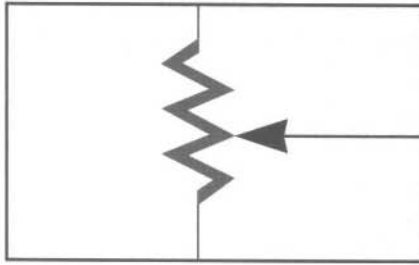

Fig. 4
8. The behavior of resistive circuit elements can be represented by a plot on the voltage-current ( $v$ - $i$ ) plane. This plot is usually called a  $v$ - $i$  characteristic. For most resistive devices, there is a unique value of  $i$  for each value of  $v$ , and vice-versa. To measure  $i$  versus  $v$ , hook up the circuit of Fig. 4, using a resistive element  $Y$ , which will be provided to you (if one is not provided, use a resistor with a value of several  $k\Omega$ ). The arrow through the PS symbol is used to emphasize that the PS voltage is variable. Two DMMs are used, one set up as a voltmeter and the other as an ammeter (alternatively, you can use a single DMM as an ammeter, along with the PS's own voltmeter). Notice that, as before, the voltmeter is connected across the element, whereas the ammeter is connected in series with the element. Think carefully about where the red and black leads of the DMM(s) should be connected to measure the voltage and current with the polarity and direction indicated in the figure.